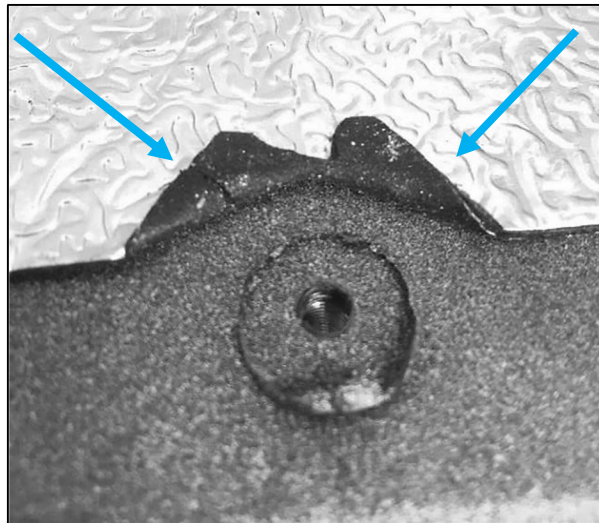

FIG. 8
12. Rotate the fuel tank. If necessary trim off the heat shielding (FIG. 8).